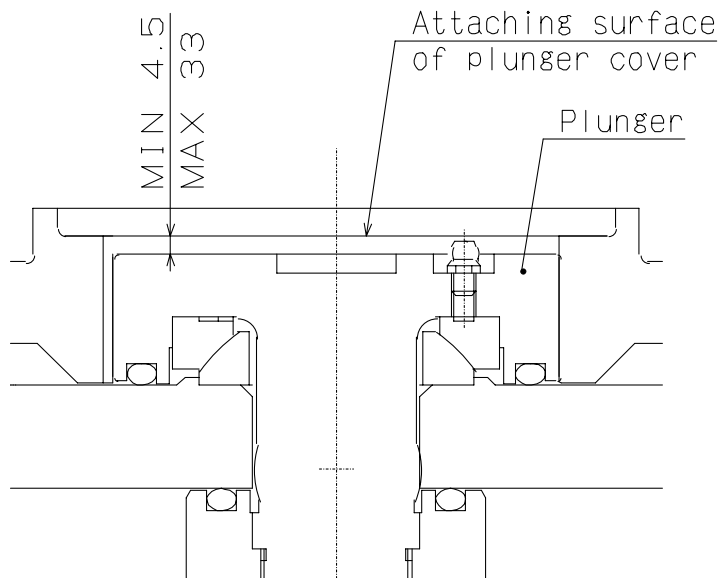

Fig.8
5. Using the connecting handle [J], as shown in Fig.8, adjust the position of plunger [G] to MIN 4.5 and install the key plate [R] with the socket head cap screws [04].